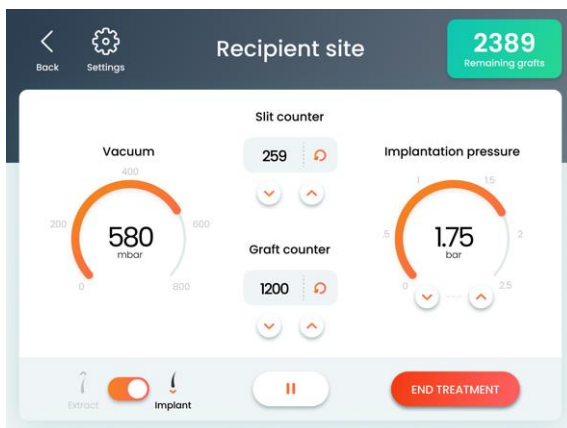

Figure 5-13. Recipient Site Treatment Screen (in Start State)
- The vacuum indicator displays the vacuum level, as shown in Figure 5-13.